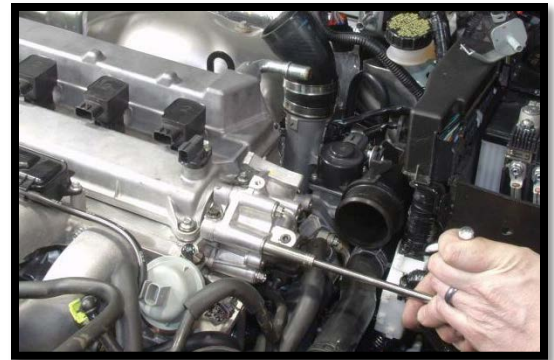

Figure 7e
- f) **Replace the fuel pump tappet housing.** Use a new gasket and tighten the four (4) bolts to **8-10.5 nm (71-92 in-lbs)** (Figure 7e).